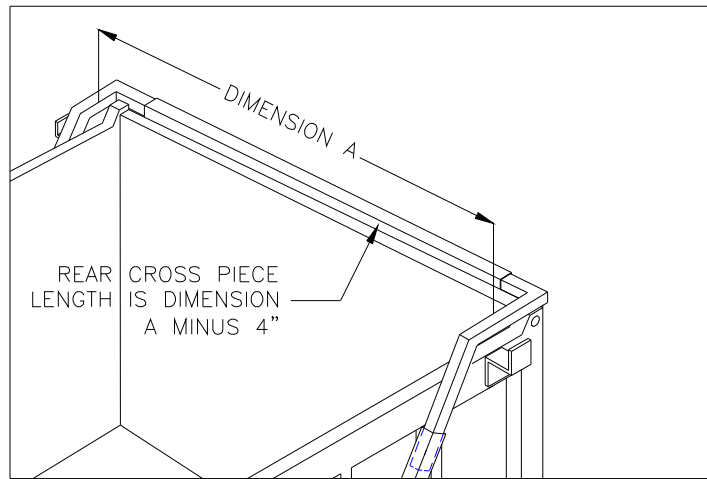

FIGURE 5
- 5) Measure the distance between the upper arms as in Figure 2. Cut one end of the rear cross piece 4" shorter than the distance measured as Dimension "A" in Figure 5.